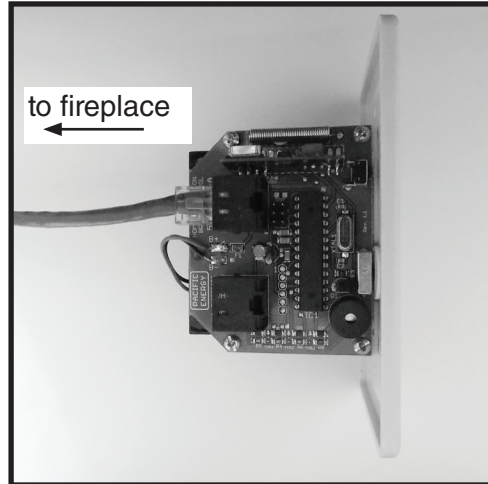

Figure 26: Wall switch - interface side.
8. Attach one end of the wall switch control cable to the wall control (Figure 26), and the other end to the interface board (Figure 24).